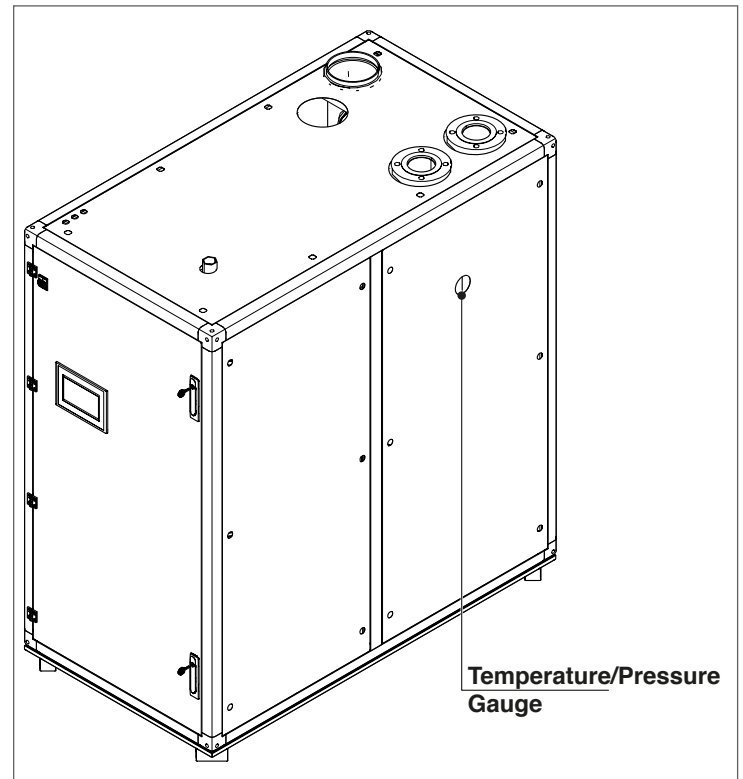

Fig. 42 Temperature/Pressure Gauge location
- Open the fill valve and proceed to fill the heating system and boiler until the pressure gauge (shown on Fig. 42), reads the pressure for which the heating system is sized. The heating system water pressure must be higher than 7.5 PSI.
Open the filling valve and check the pressure on the temperature/pressure gauge of Fig. 42.